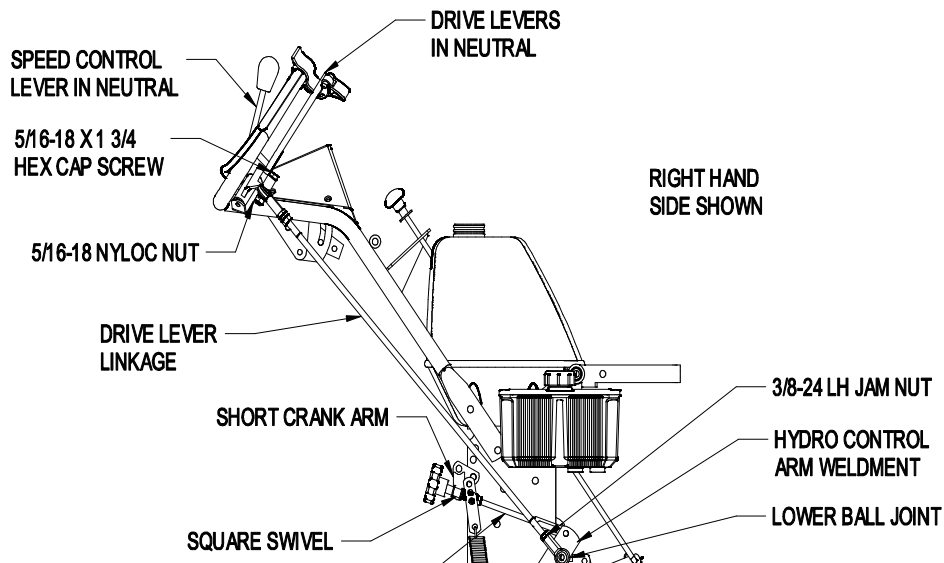
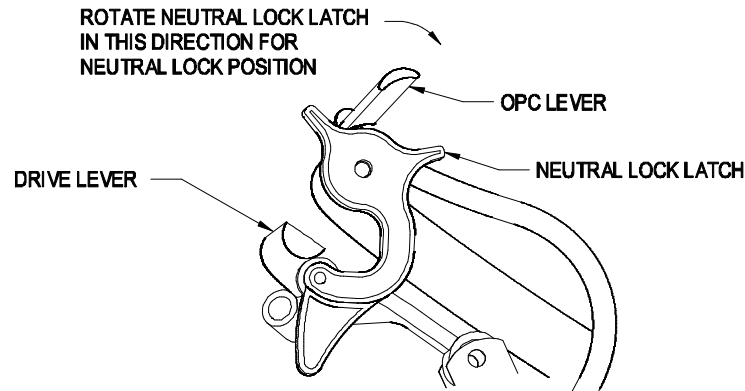
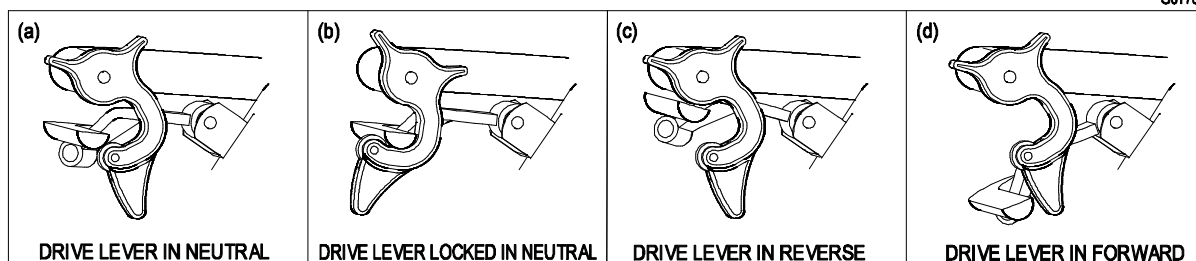

FIGURE 4
FIGURE 6
FIGURE 7
Install a 5/16" SAE washer and fasten with a 3/32" x 1/2" cotter pin from bolt bag. Repeat on opposite side of unit (See Figure 4).
Refer to figure 4. Position speed control lever in neutral. Position drive levers in neutral and engage the neutral lock latches (See Figure 7(b)). Drive lever linkages are shipped with upper ball joints installed. Thread a 3/8-24 LH jam nut, from the bolt bag, onto the lower end of each drive lever linkage. Identify the lower ball joints installed on hydro control arm weldments. Thread lower end of each drive lever linkage into the lower ball joint until hole in upper ball joint aligns with hole in drive lever. Install 5/16-18 x 1 3/4 hex cap screws and 5/8-18 nyloc nuts from the bolt bag and tighten. This will give an approximate setting for drive lever linkages; you will need to refer to Section 5.2.10 step d to complete the drive lever linkage adjustment.
- 4.1.2 Operator Presence Control (OPC) Levers: Located on the upper handle assembly directly above the handle grips (See Figure 6). **When these levers are depressed, the OPC system senses that the operator is in the normal operator's position. When the levers are released, the OPC system senses that the operator has moved from the normal operating position and will kill the engine if either the speed control lever is *not in the neutral* position or the *PTO is engaged*.**
- 4.1.4 Drive Levers: Located on each side of the upper handle assembly directly below the handle grips (See Figure 6). These levers individually control the speed and direction of each drive wheel. When the speed control lever is moved out of the neutral position and the neutral lock latches are moved into the drive position, as shown in Figure 7, and the drive levers are released, the drive wheels are engaged in the forward direction.
- 4.1.5 Neutral Lock Latch: Located at the end of the handles. The purpose of these latches is to allow the operator to lock the drive levers in a "neutral" position where neither of the drive wheels are engaged in either a forward or reverse direction. (See Figure 6).
To lock the drive levers in “**neutral lock**”, squeeze the drive levers to the “neutral” position See Figure 7 (a). (Do Not squeeze at the drive levers all the way back as this will cause the drive wheels to go into the full reverse direction). Place thumbs on the inner thumb lobe of the neutral lock latches and rotate them to the “neutral lock” position. See Figure 7 (b). Release the drive levers.
To place the drive levers in the “**forward**” position, slightly squeeze the drive levers while placing thumbs on the outer thumb lobe of the neutral lock latches (or the index finger on the front lobe) and rotate them from under the drive levers. **Slowly** and **carefully** release the drive levers. See Figure 7 (d).
To place the drive levers in the “reverse” position, squeeze the drive levers past the neutral position. See Figure 7 (c).
For reverse: Squeeze both drive levers into the reverse position. See Figure 7 (c).
- 4.3.6 To Stop: Squeeze drive levers back to the “neutral” position. See Figure 7 (a) Move neutral lock latches into the “neutral lock” position. See Figure 7 (b) and release drive levers. Move the speed control lever to the neutral position.